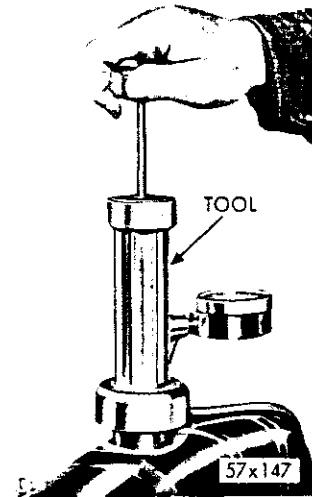

Fig. 10—Checking the Cooling System for Leaks
(1) Wipe the radiator filler neck sealing seat clean. The water level should be $\frac{1}{2}$ inch below neck of the radiator.
(2) Attach the Tester Tool C-3499 to the radiator, as shown in Figure 10 and apply 15 pounds pressure. If the pressure drops inspect all points for external leaks.